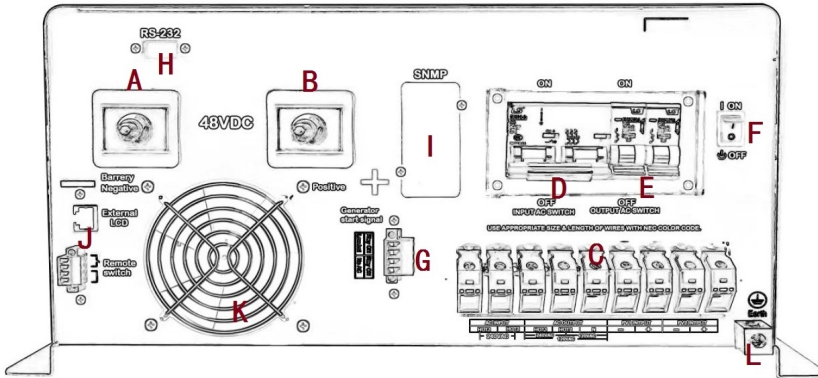

Figure 5. 8-12KW Front panel
Step 2: Following the wiring guide located in the AC input wiring compartment as figure 5, connect the GND (green/yellow), Line (brown), and neutral (blue) wires from the AC input (utility, generator, etc) to the terminal block.